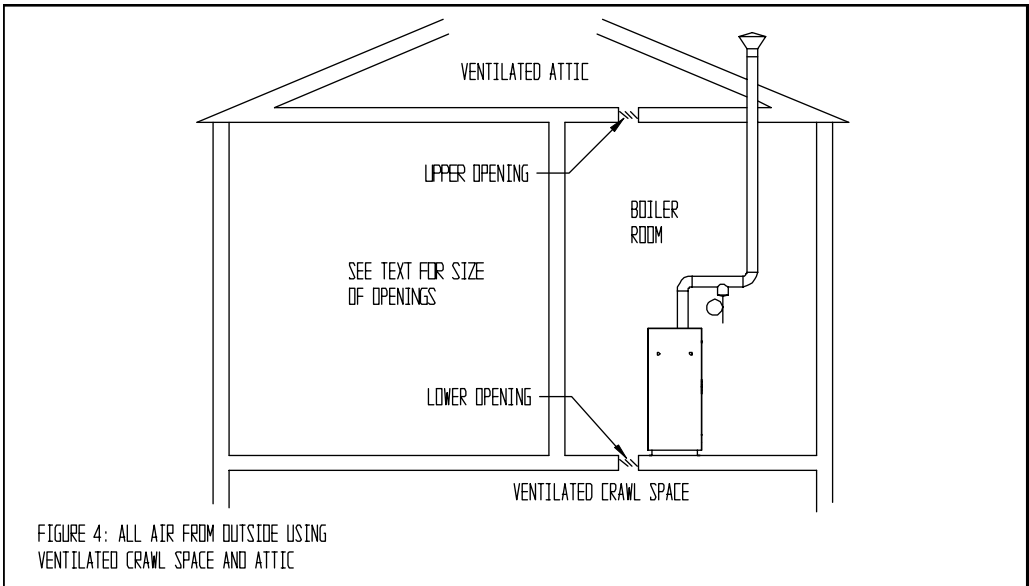
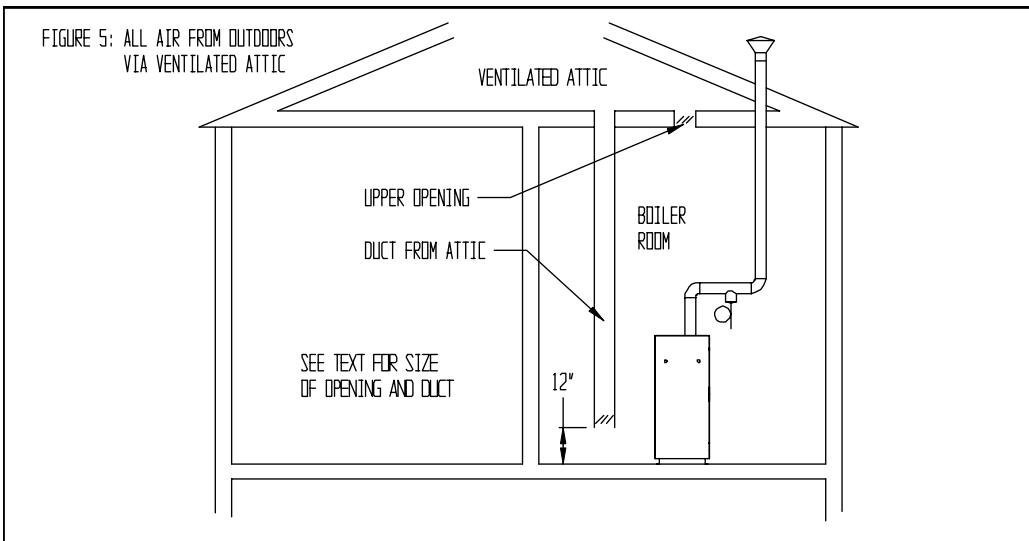

FIGURE 4: ALL AIR FROM OUTSIDE USING VENTILATED CRAWL SPACE AND ATTIC
FIGURE 5: ALL AIR FROM OUTDOORS VIA VENTILATED ATTIC
- Vertical ducts or openings directly outdoors (Fig 4, Fig 5, Fig 6) – Each opening must have a free cross sectional area of 1 square inch per 4000 BTU/hr of the total input of all gas-fired appliances in the boiler room. Minimum opening size is 3 inches. Ducts must have the same cross sectional area as the openings to which they connect.